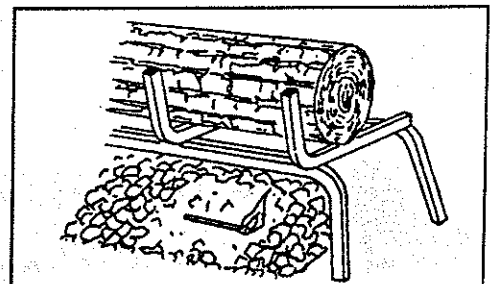

Figure 6. Lighting the log set.
C. Lay match on top of embers and granules near gas burner input. **Do not hold match in hand.** (See Figure 6.)